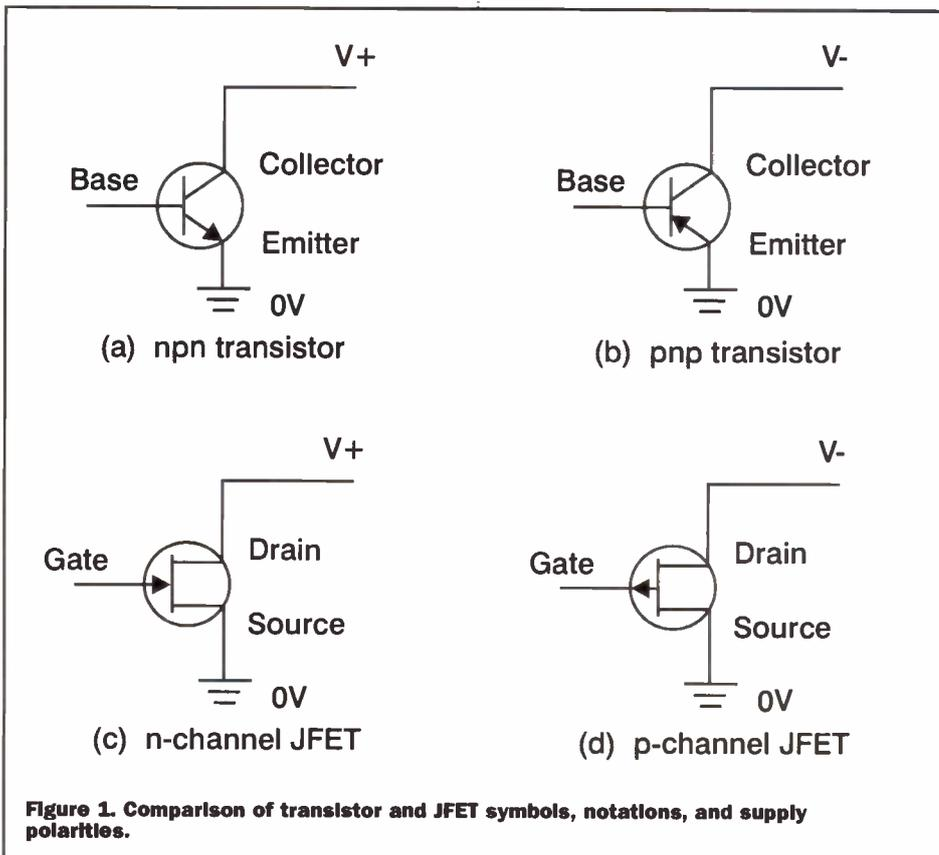

Figure 1. Comparison of transistor and JFET symbols, notations, and supply polarities.
'junction-gate' types of FET, this term generally being abbreviated to either JUGFET or (more usually) JFET. The second family are known as either 'insulated-gate' FETs or Metal Oxide Semiconductor FETs, and these terms are generally abbreviated to IGFET or MOSFET respectively. 'N-channel' and 'p-channel' versions of both types of FET are available, just as normal transistors are available in npn and pnp versions, and Figure 1 shows the symbols and supply polarities of both types of bipolar transistor and compares them with both JFET versions.
(1). When a JFET is connected to a supply with the polarity shown in Figure 1 (drain +ve for an n-channel FET, -ve for a p-channel FET), a drain current (I_D) flows and